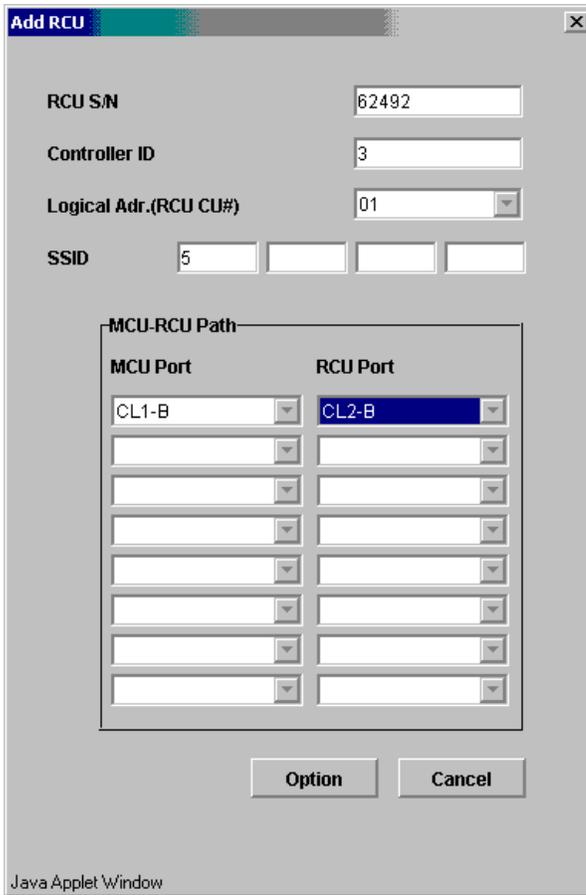

Figure 3.11 Adding the RCUs
6. Add the desired RCU(s) to each MCU CU image, and set the desired RCU options using the Add RCU panel (see Figure 3.11) and RCU Option panel (see Figure 3.12) (see section 4.2.2 for instructions). Enter the following information on the Add RCU panel: